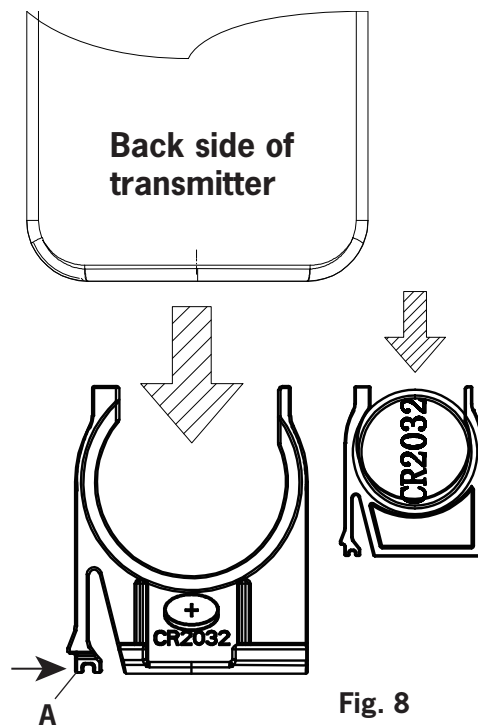

Fig. 8
1. Remove the battery seat from the bottom of remote control transmitter and install battery. Replace the battery seat. (Fig. 8)
Remove battery seat by pushing at "A" position as shown in Fig. 8 toward to right hand side and pull it out. Install CR2032 battery into battery seat (**make sure the side with "+" is upward**) and reinstall the battery seat.